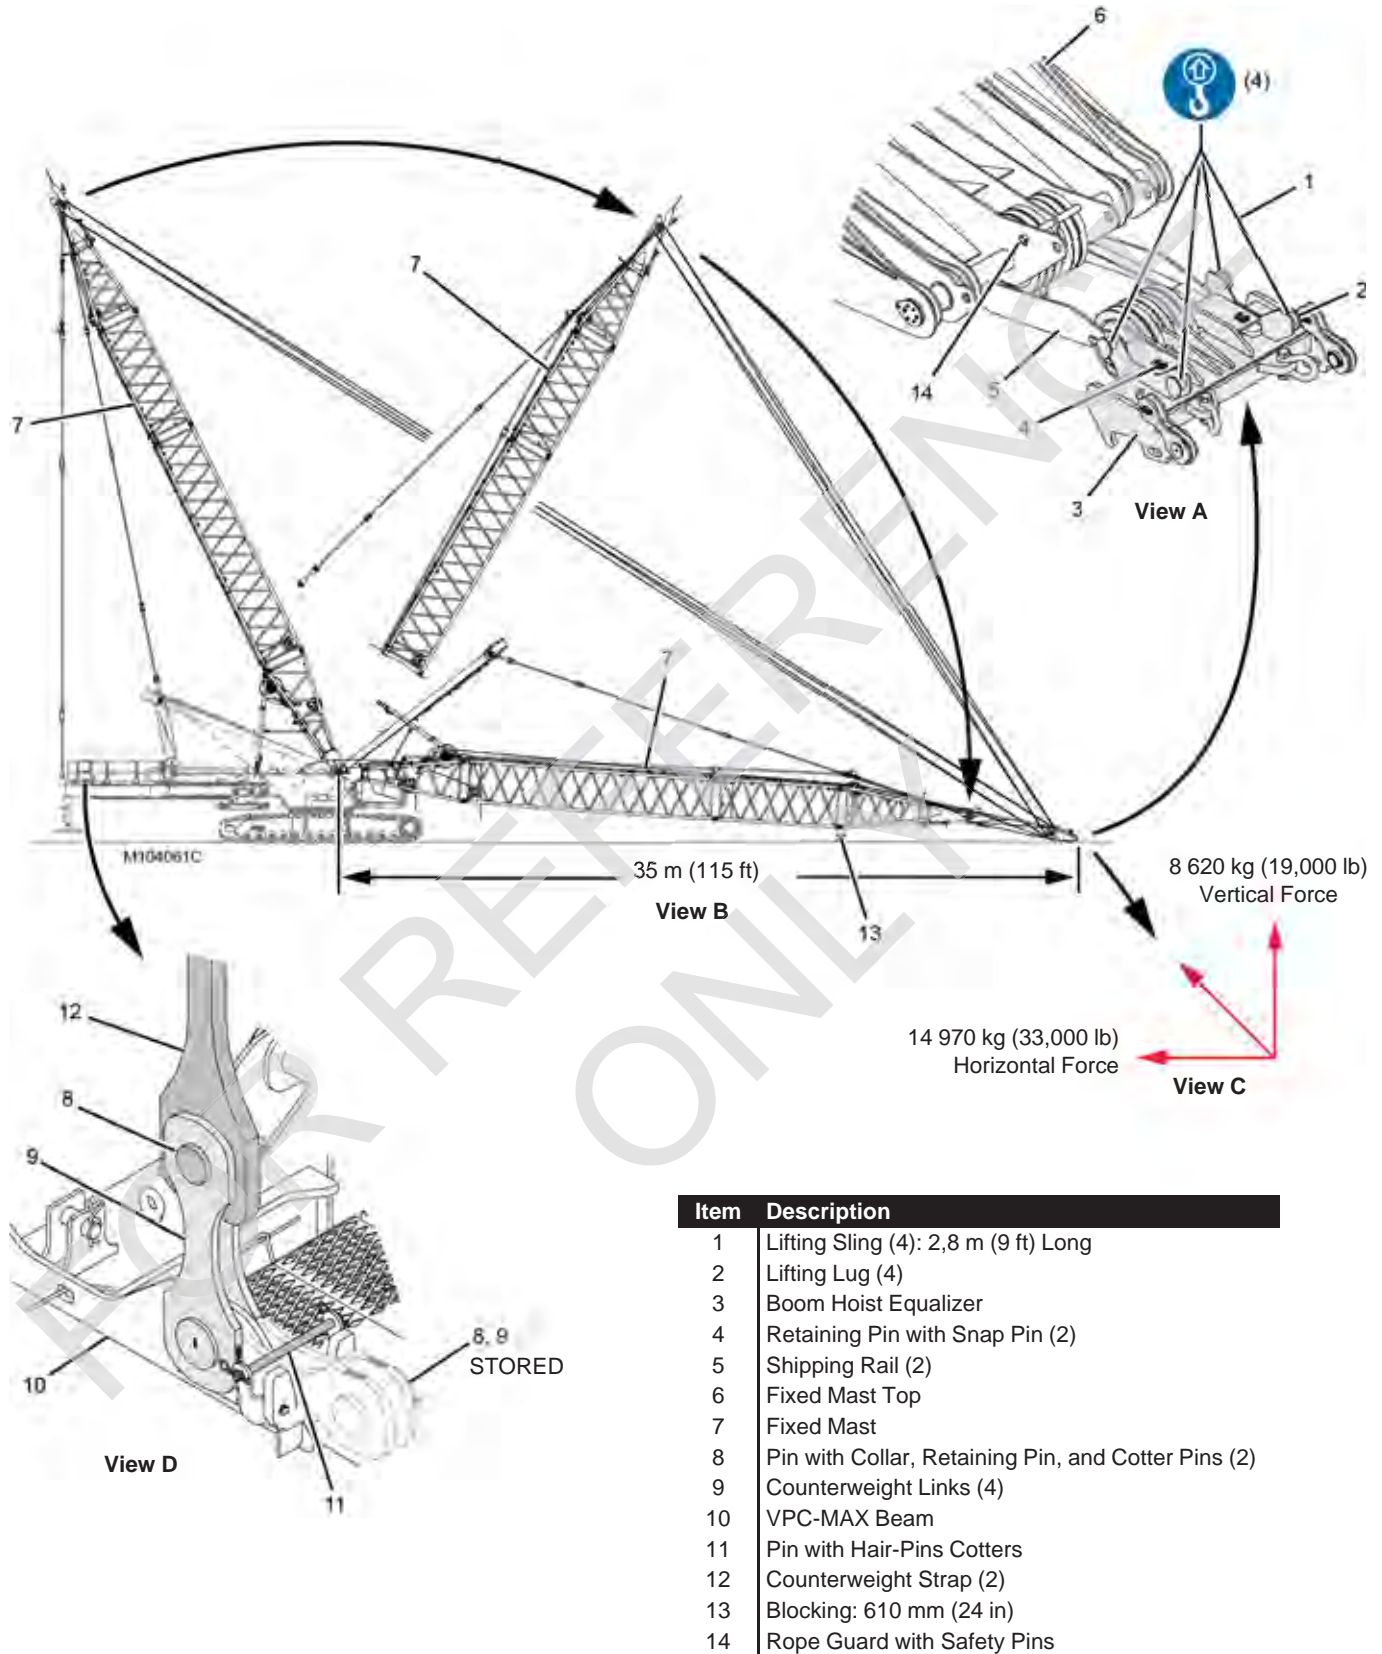

Figure 4-65
1. Attach slings from the assist crane to the boom hoist equalizer as shown in View A, Figure 4-65 on page 4-112.
Anchor the boom hoist equalizer (3) to the desired holdback per the anchor holdback diagram in Figure 4-65, View C.
See Figure 4-65, View D for the following procedure.
See Figure 4-65 for the following procedure.
See Figure 4-65, View A for the following procedure.